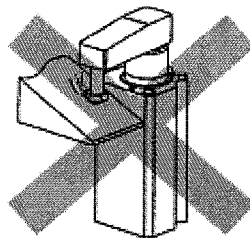

Figure 4
- (4) Make sure that the clamping surface of the work piece is perpendicular to the cylinders axial. (See Figure 4.)